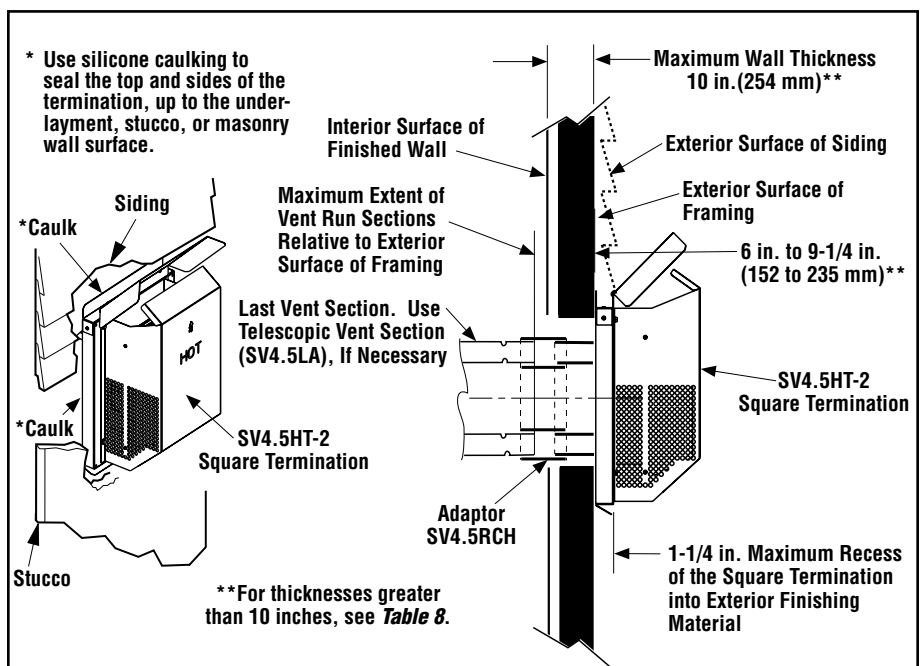

Figure 41
1. Install the square termination (SV4.5HT-2 or SV4.5HTSS). From outside the exterior wall, slide the collars of the termination onto the adaptor (the outer over the outer and the inner inside the inner) until the termination seats against the exterior wall surface to which it will be attached. Orient the housing of the termination with the arrow pointed upwards. Secure the termination to the exterior wall. **The horizontal termination must not be recessed into the exterior wall or siding by more than the 1-1/4" (32 mm) as shown in Figure 41.**
Note: See Figure 41 showing wall thickness range when using SV4.5HT-2 termination kit.